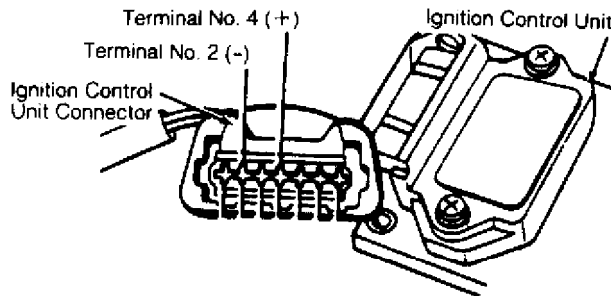

Fig. 10: Typical Ignition Control Unit Connector Identification (Except Vanagon)
1) Perform SPARK check. If secondary spark is present, ignition control unit is okay. If not, turn ignition off. Disconnect ignition control unit wire harness connector. Turn ignition on. Using a voltmeter, measure voltage between terminal No. 2 (-) and terminal No. 4 (+) of connector. See Fig. 10.